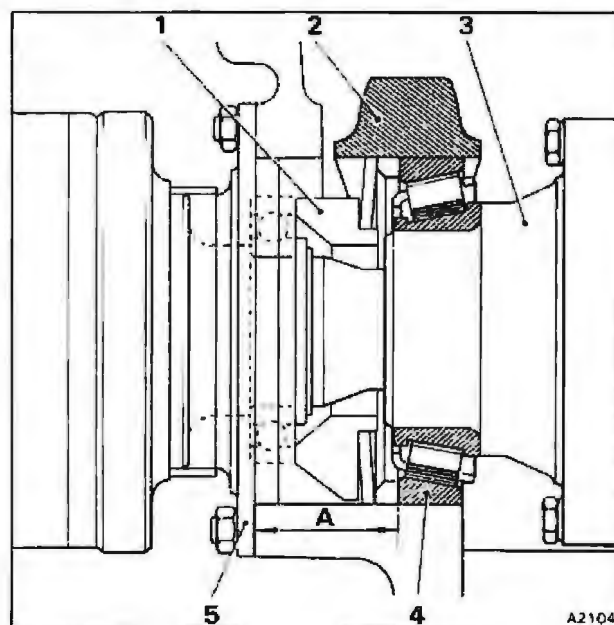

Fig. J2-9 Casing flange to bearing measurement
22. Accurately measure the distance from the case flange to the taper roller bearing outer track on the right-hand side of the final drive case (see fig. J2-9).